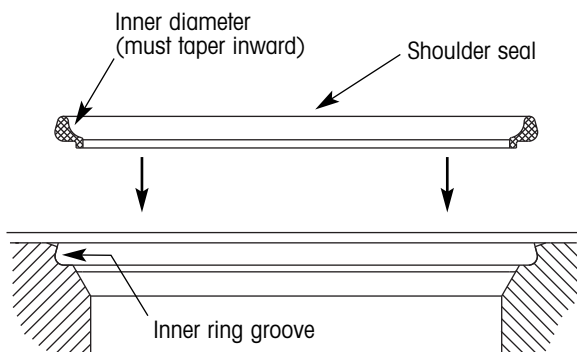

Figure 15. Shoulder seal installation details
2. Install the new shoulder seal into the inner ring groove (figure 15) in the hub. When properly oriented for installation, the shoulder seal inner diameter will taper inward. Do not force the shoulder seal into the inner ring groove.